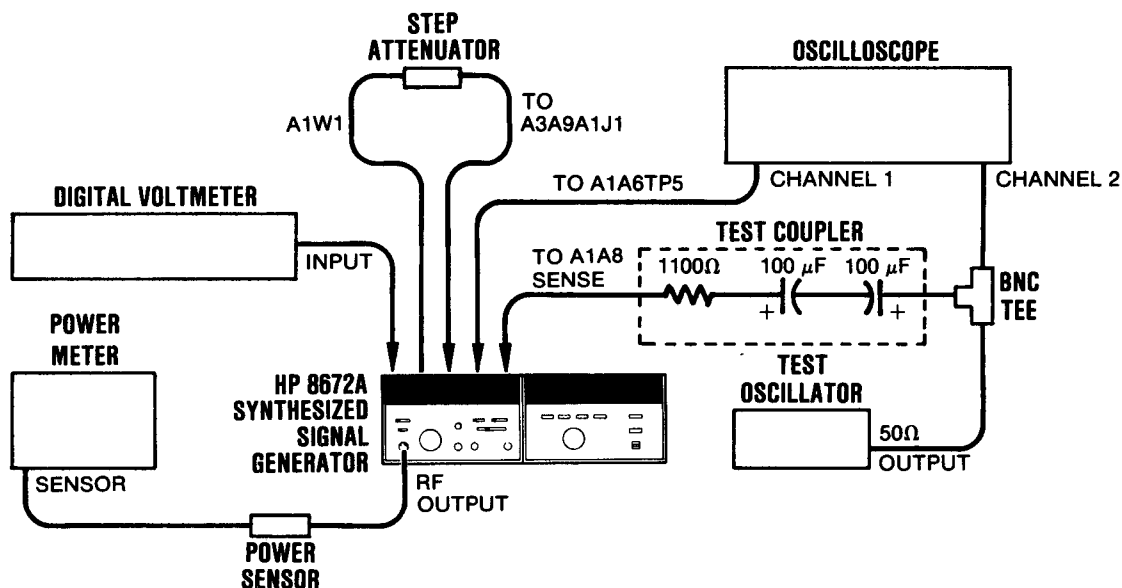

Figure 5-11. YTM Adjustment Test Setup
8. Disconnect A1W1 from directional coupler output at A3A9A1J1 (see Service Sheet B, Top View Assembly Locations). Connect a step attenuator between A3A9A1J1 and A1W1. Connect the remaining equipment as shown in Figure 5-11.